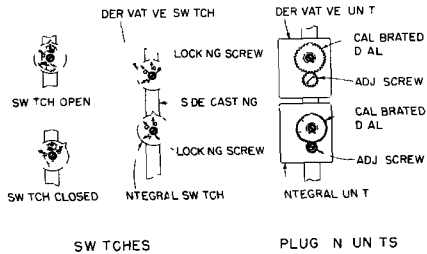

FIGURE 6 - Integral and Derivative Switches
5. Check that integral and derivative switches or plug-in units are correctly set. Integral switch or valve of integral plug-in unit must be in closed position. Derivative switch or valve of derivative plug-in unit must be in open position. (Valves of plug-in units are "open" or "closed" when adjusting screw is turned to full clockwise or counterclockwise position respectively.) See Figure 6.